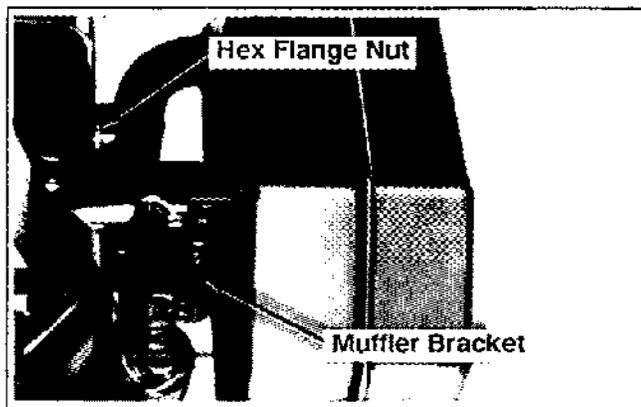

Figure 9-2. Removing Muffler.
1. Remove the hex flange nuts from exhaust studs and hex flange screws from muffler bracket. See Figures 9-2 and 9-3.